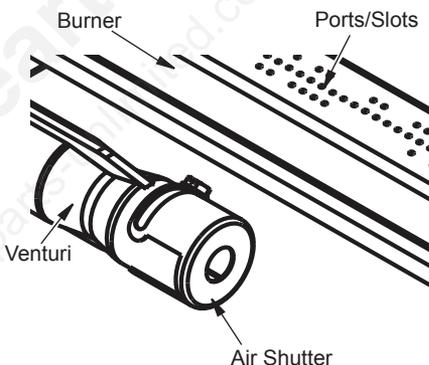

Figure 42 - Injector Holder On Outlet Burner Tube
2. Inspect burner, air shutter and orifice for dust and dirt (see Figures 42 and 43).